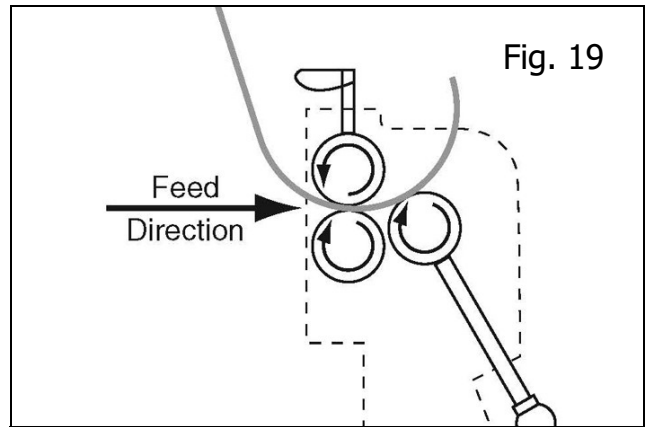

Fig. 19
6. Rotate the workpiece 180°, insert the curved end into the rollers, then process it through the machine, as illustrated in Figure 19.